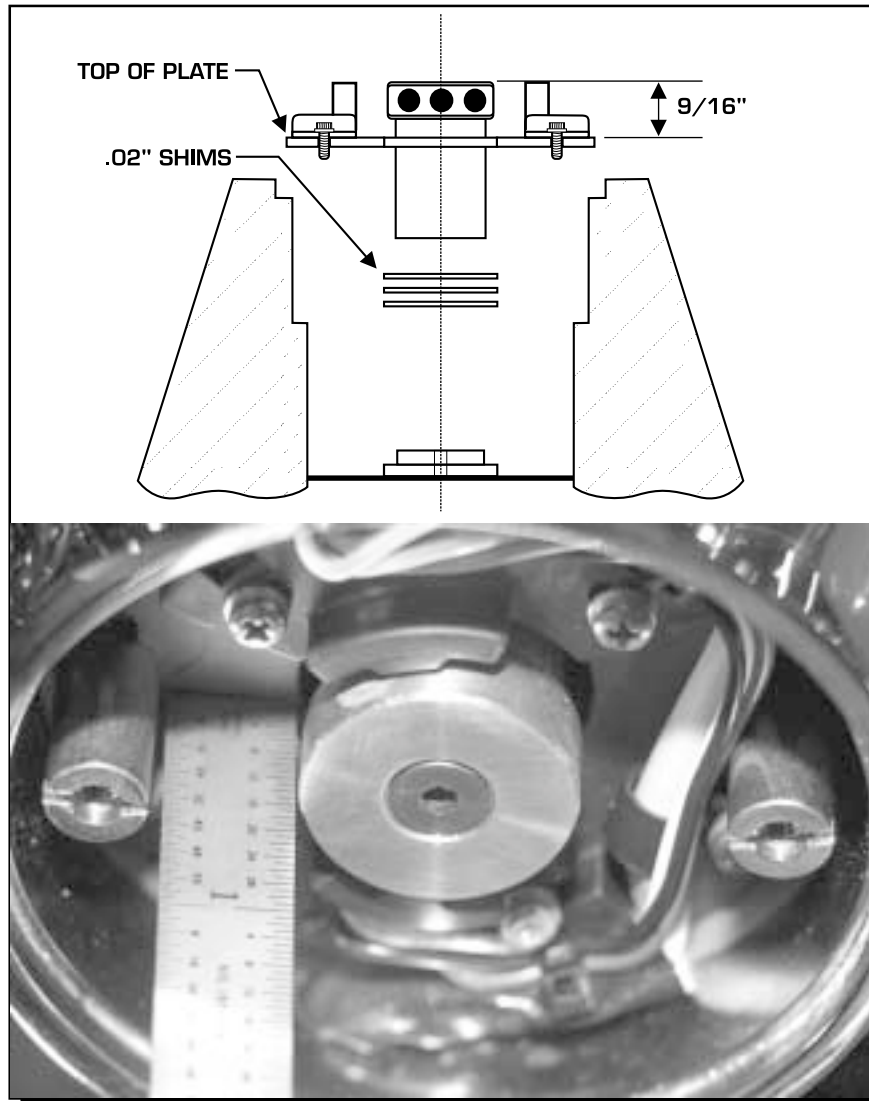

Figure 5 Checking Rotor Height.
5. Check the distance from the outer surface of the pickup plate to the end of the installed rotor (Figure 5). If necessary, add shims until the measured rotor height is $9/16$ -inch ($\pm 1/32$ -inch).